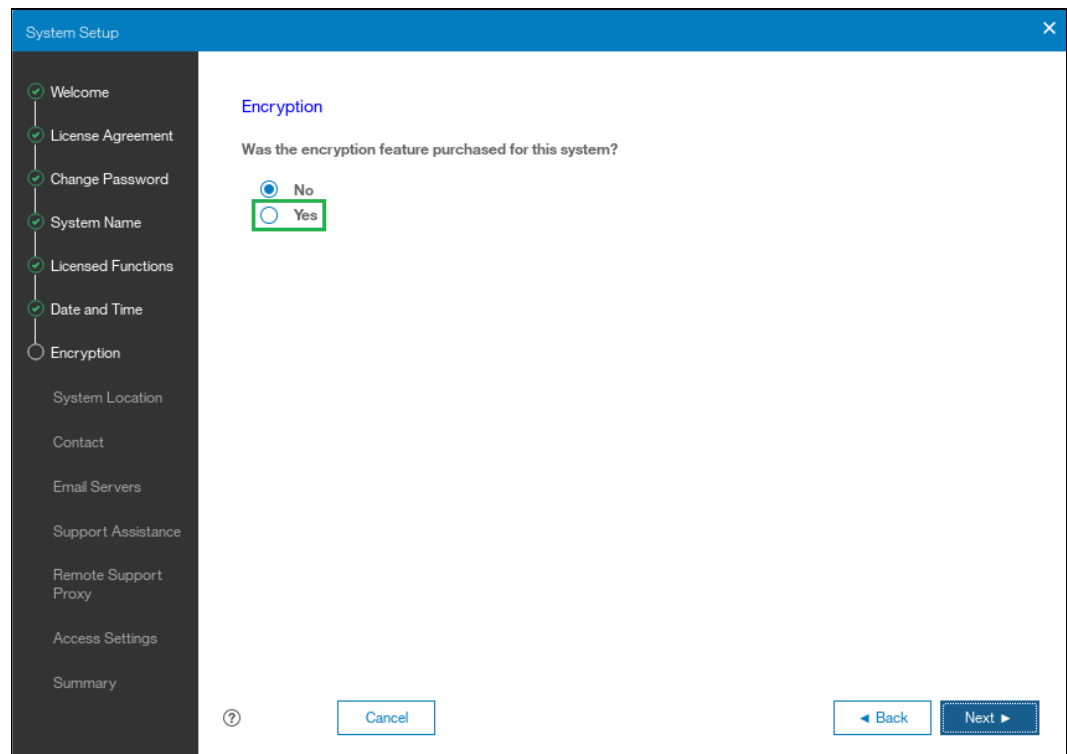

Figure 13-5 Encryption activation during initial system setup
1. Select **Yes**, as shown in Figure 13-5.